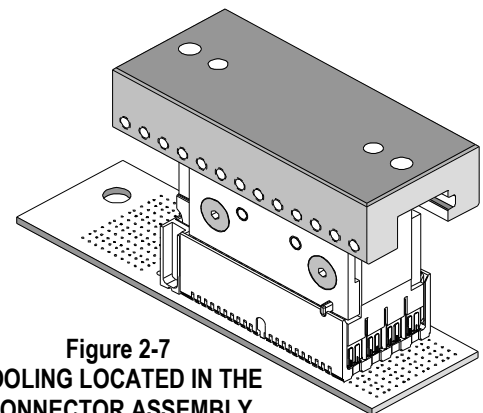

Figure 2-7
- Locate the tooling assembly in the connector assembly, carefully checking alignment. The orientation feature on the tool must engage with the notch on the connector body. See Figure 2-7.